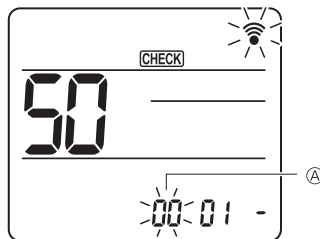

Fig. 2
Press the **[↓]** button to set unit number ①. (Fig. 2)